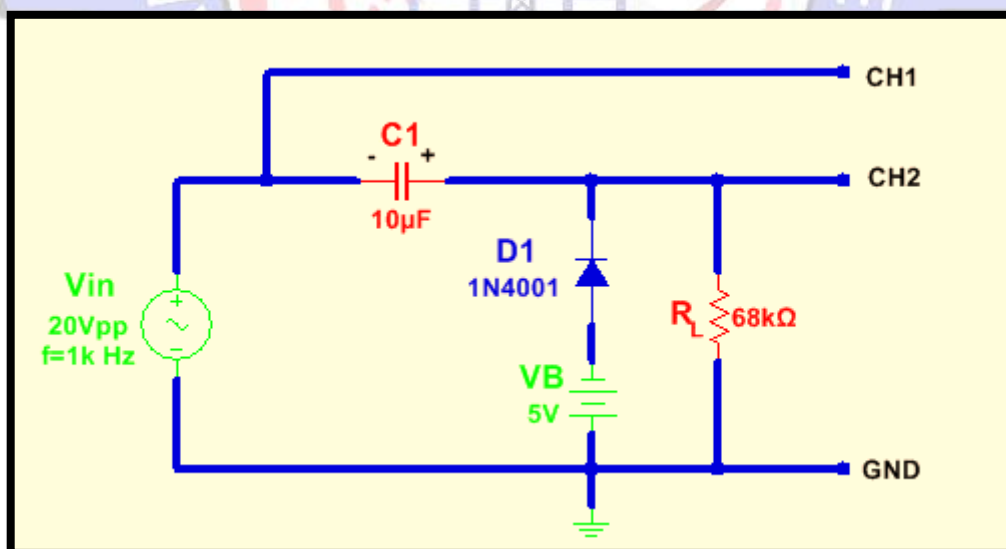

Figure 12: Practical Biased Positive Clamping Circuit
7. Connect the biased positive clamping circuit shown in Fig.12, and apply a 10Vpp sinusoidal input waveform with frequency of 1 kHz at the input. Display and sketch the input and the output waveforms.